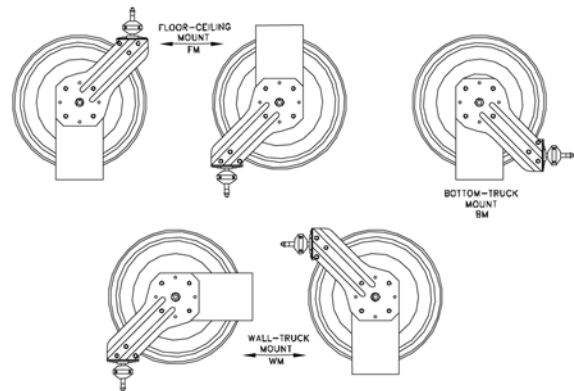

Figure 1
2. The reel is supplied with a hose guide roller bracket. The bracket position may be changed depending on the reel mounting position. Figure 1 shows "Typical Mounting Positions". If bracket position needs to be changed, do the following: